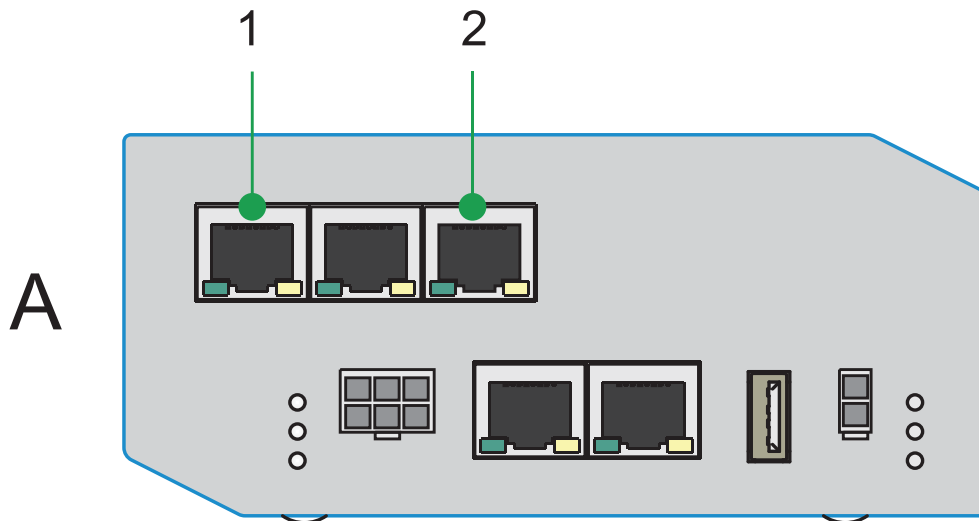

Fig. 23 Connecting the VPN-router, case A
A: AlsoEnergy devices (2) and customers router (1) in the same network (refer to Fig. 23 below).